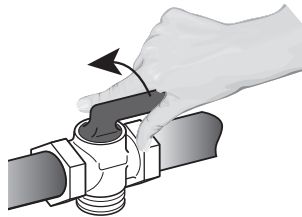

Figure 5
- 2** Shut off the gas supply to the appliance by closing the manual shut-off valve (see Figure 5). Disconnect electrical power to the appliance before servicing. Do not remove regulator or allow it to turn during servicing.